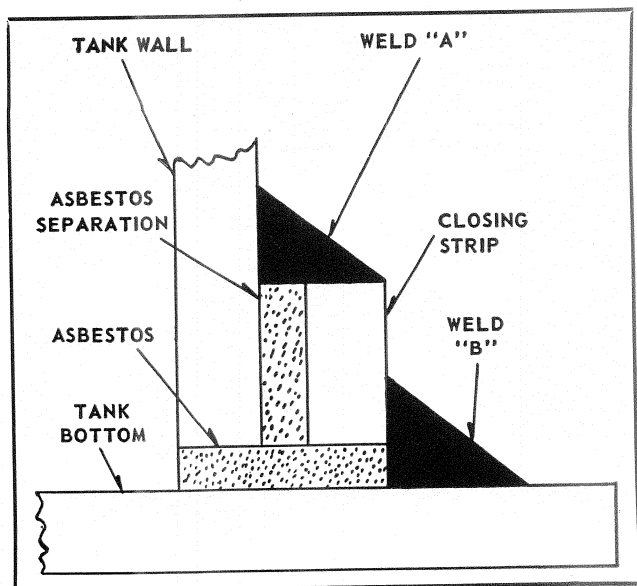

FIG. 8. Weld between Tank Wall and Tank Bottom
Many transformer designs will have a bottom weld between the tank wall and the tank bottom. This arrangement, which is not of the form-fit design, is illustrated in Fig. 8. It is necessary to remove this
1. Weld "A" of Fig. 8 must be removed, not weld "B". This is to prevent the gas flame from reaching the oil that has dripped from the core and coil assembly and collected on the tank bottom.